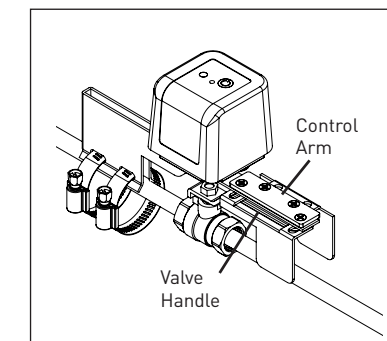

Figure 4
4. Make sure both the ball valve and the Water Main Shut-Off are in the "open" position (where the handle is in line with the pipe, not at a right angle to it,) and slide the CONTROL ARM around the valve's handle (fig 4.)